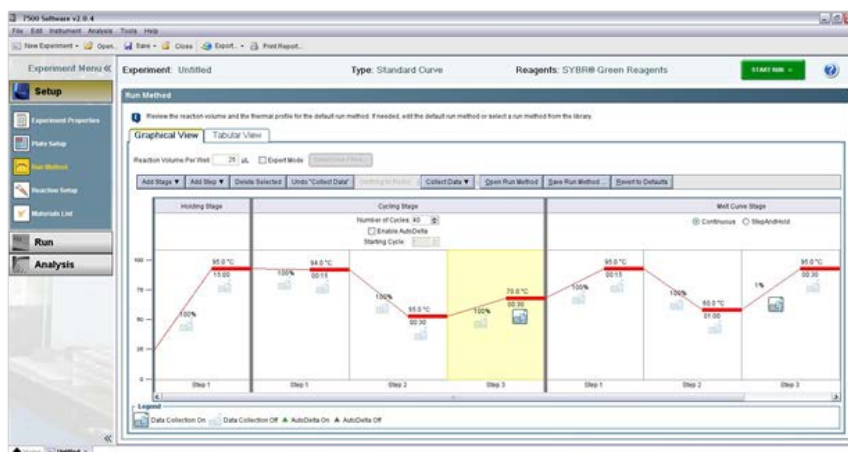

Figure 2. Run Method.
5. Under “Setup” > “Run Method” menu (See Figure 2).